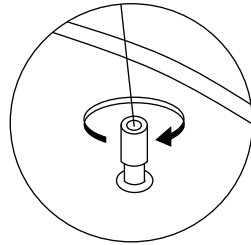

Fig 12
9. Screw the holder back into the Turandot (Fig 12).